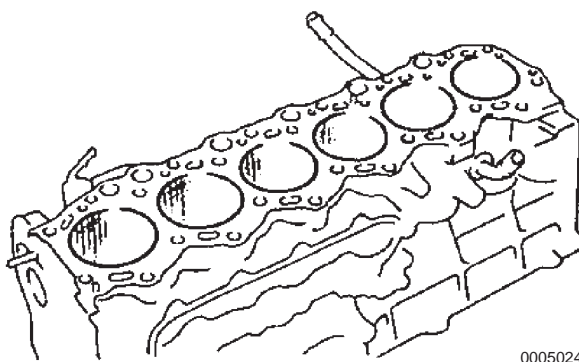

Figure 5-101
4. Visually check the cylinders for vertical scratches. If deep scratches are present, bore the cylinders or replace as needed (**Figure 5-101**).